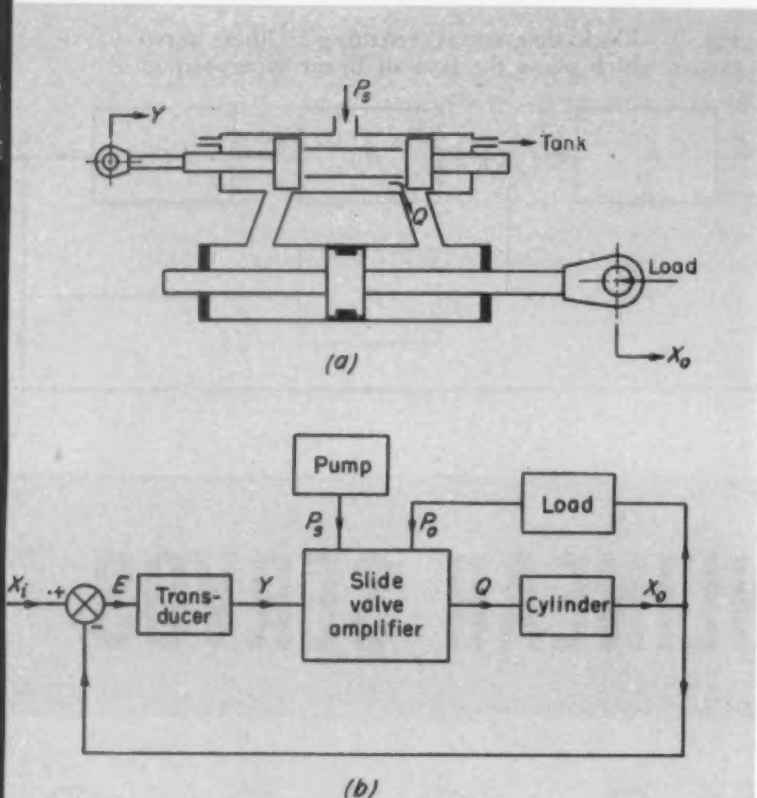

Fig. 4—Hydraulic servo system. Slide valve and cylinder arrangement is shown at *a*, block diagram at *b*
**Slide Valve Hydraulic Servo:** Probably the best way to demonstrate this technique is by an actual example, and the system chosen is a hydraulic servo in which the main amplifier is a slide valve, Fig. 4.